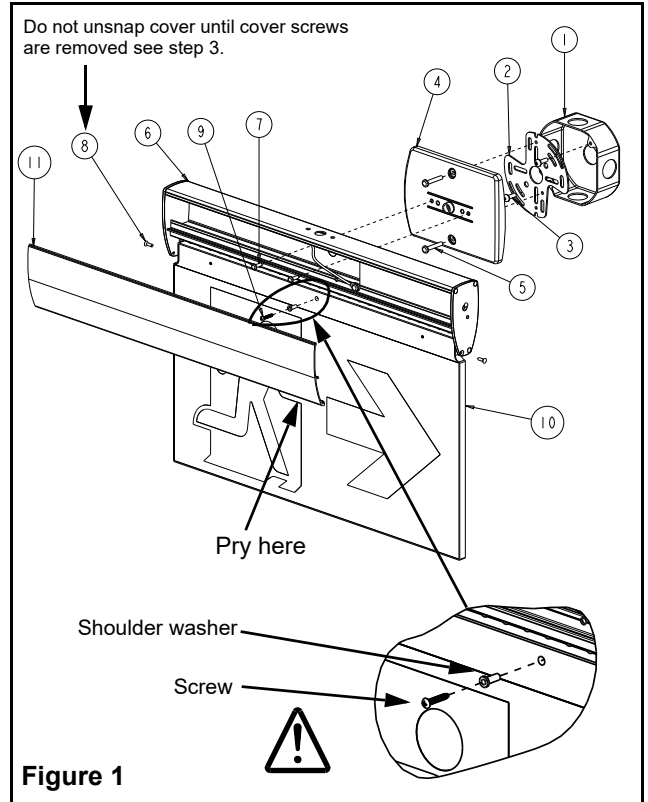

Figure 1
3. Remove the 2 bottom screws (8) from the cover front and set aside to reinstall later. (See Figure 1)
4. Manually unsnap cover (11) by lifting the bottom of the cover and remove. Note: if the cover is too difficult to lift, use a flat head screw-driver to gently pry the cover at the point indicated in Figure 1.
Wall Mount (See Figure 1)
WARNING: Screw and shoulder washer (item 9 in Figures 1 & 2) must be installed to secure panel and prevent slippage during installation and maintenance. Front cover (11) must be secured using screws (8) (see step 10) except during installation or maintenance.